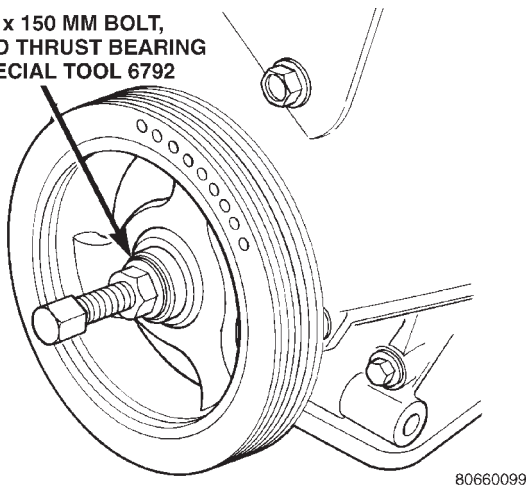

Fig. 53 Crankshaft Damper—Installation
(1) Install crankshaft damper using M12-1.75 x 150 mm bolt, washer, thrust bearing and nut from Special Tool 6792. Install crankshaft damper bolt and tighten to 142 N·m (105 ft. lbs.) (Fig. 53).
(2) Install accessory drive belts. Refer to Group 7, Cooling System Accessory Drive section for procedure.